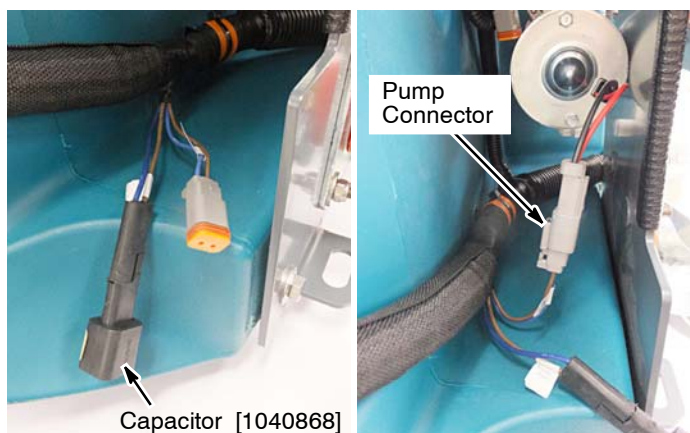

Fig. 19
7. Connect the pump connector to the ec-H2O pump. Plug the capacitor into the machine harness as shown (Figure 19). Secure wire connections with cable-tie.